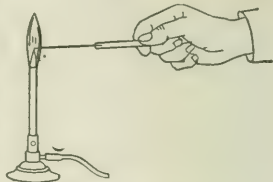

Fig. 71. Flame test for sodium, etc.
**b. Sodium.** Heat the end of the cleaned wire and quickly touch a tiny particle of sodium chloride. Hold the wire with the adhering particle in the lower part of the outer blue layer of the flame (Fig. 71) and *note the color of flame produced*. Examine the sodium flame through two thicknesses of blue (cobalt) glass. *What tint of light is absorbed by the blue glass and hence does not reach the eye?* Hold the wire in the flame until the color has nearly disappeared, then clean it as before by dipping in hydrochloric acid.